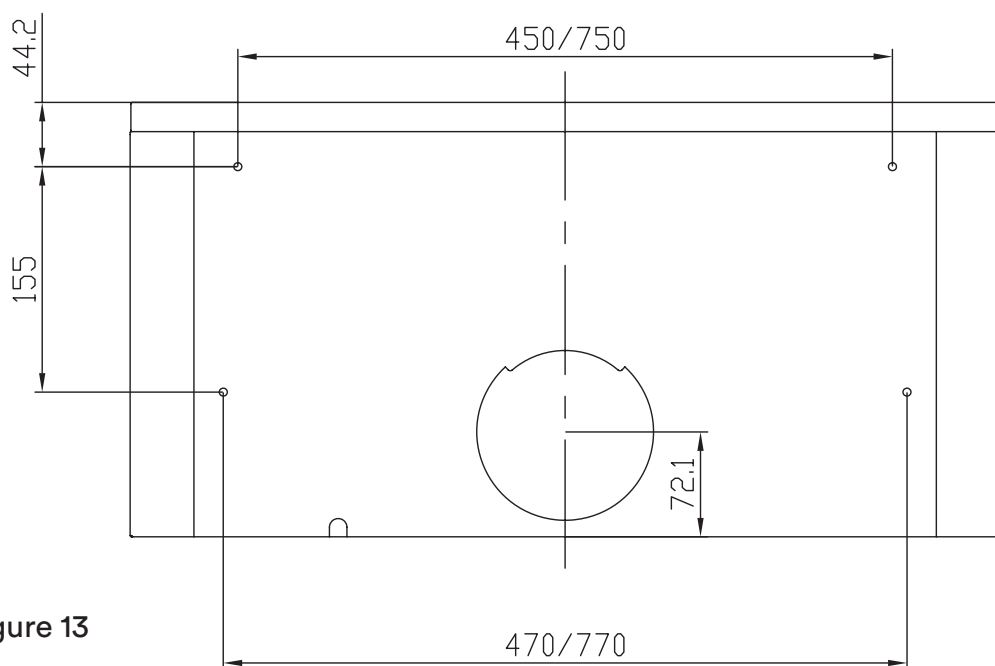

Figure 13
- Determine where in the top cabinet you want to install the rangehood, then drill 4 holes of $\text{Ø}4\text{mm}$ at the bottom of the hanging board of your cabinet (Figure 13).